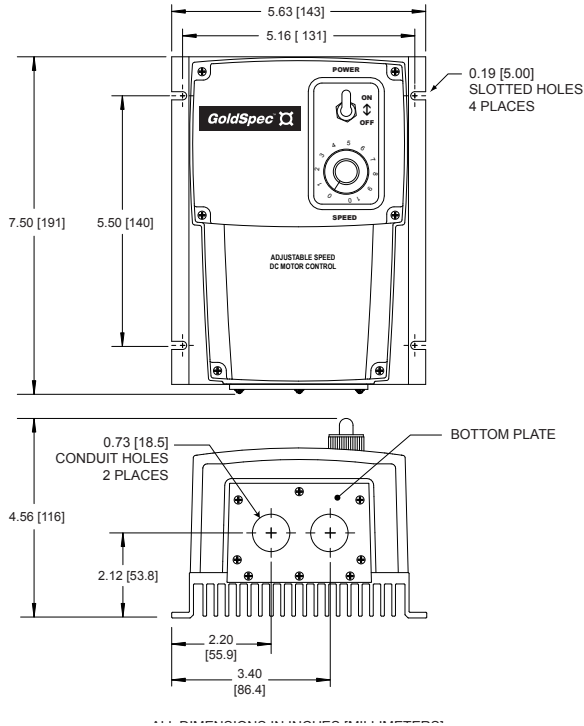

Figure 1. GS10 Series Dimensions
1. Mount the control using the 4 slotted holes on the heat sink. The slotted holes are 0.19 inches [5 mm] (see Figure 1).
GS10 Series drives may be vertically wall mounted using the four 0.19 inch (5 mm) slotted holes on the attached heat sink (see Figure 1, Page 2). For motor loads less than 5 ADC, the drive may be bench mounted horizontally, or operated without mounting.